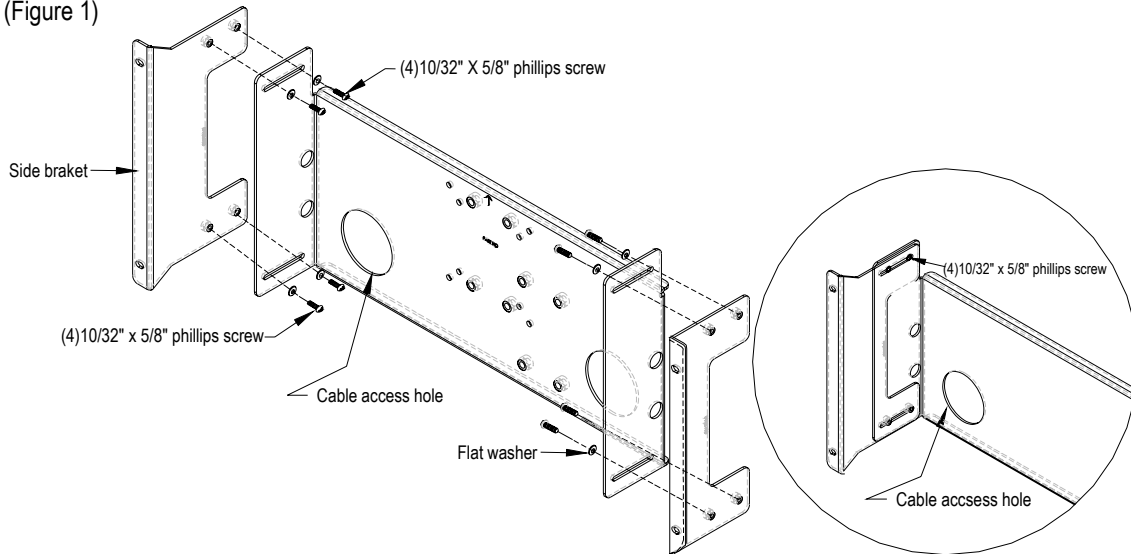

Figure 1
Invert the FPA rack mount bracket and place on a flat surface. Take the two (2) side brackets and secure them to the FPA rack mount using the Eight (8) 10/32" x 5/8" phillips head screws and eight (8) flat washers (supplied). (Figure 1)